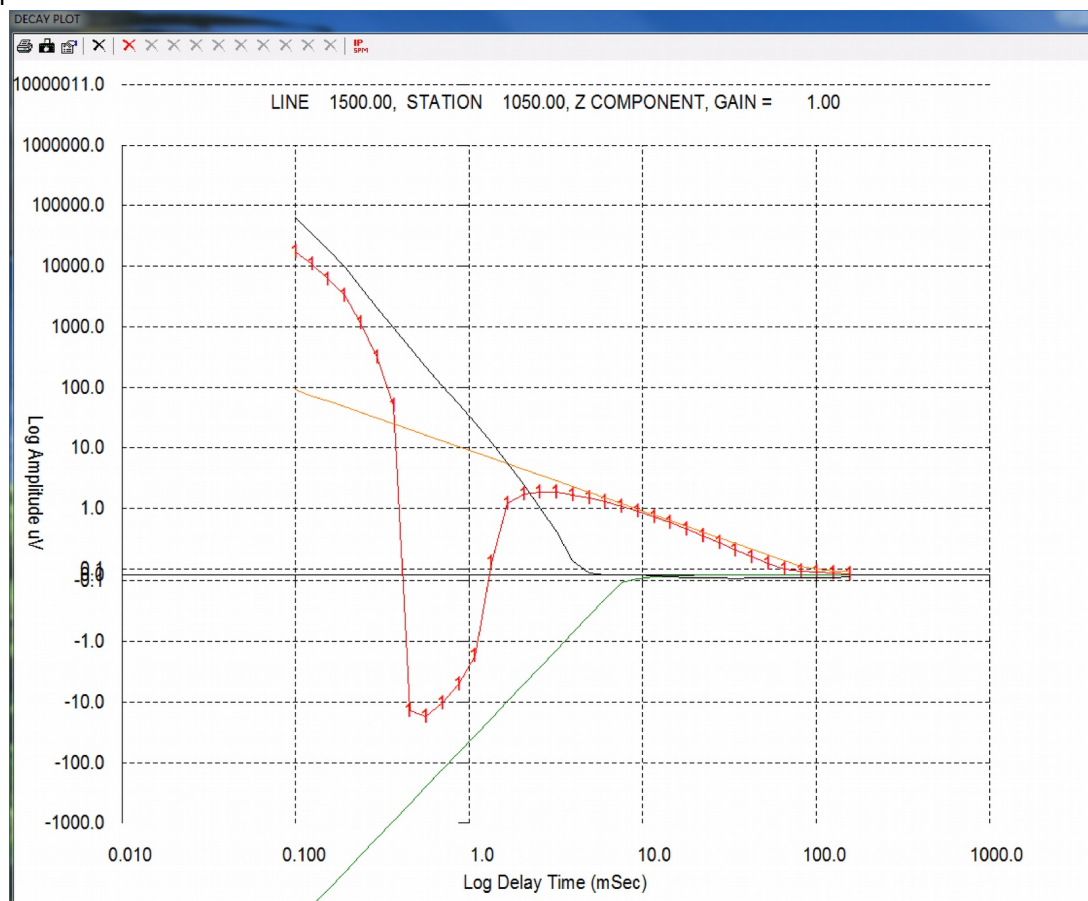

Figure 3: Example decay plot (red) showing IP (green) and SPM (orange) decays and resulting residual decay in black
- Edit and view a database using a spreadsheet like editor. The Editor is a special purpose version of the one used in DBASEO and has added to it the ability to plot decays for each record as you move through the database. The function key on the tool bar allows simple maths to be applied to all EM windows simultaneously. Decays can be flipped for those operators that can not get their polarity right. Optionally plot decays for repeat readings in the one frame and allow the user to selectively delete them. The decay plot has a properties button to allow it to be changed from log-log to log-linear or liner format and to overlay either a median or average decay on the plot, the linear section of the log plt can also be changed. Also optionally plots profiles for a line/component of data with user control over log, linear or ASINH display, scale and window range. Includes error bars if repeat readings exist. An SPM/IP button is included in the decay plot so that the user can apply a variable amount of SPM or IP correction to the decay to remove these effects. The same can be done with exponential and power law fits. See example in Fig 3. Large databases (e.g airborne EM databases) can slow down the editor so to get around this you are offered the opportunity to load one line at a time into the spreadsheet. Note that